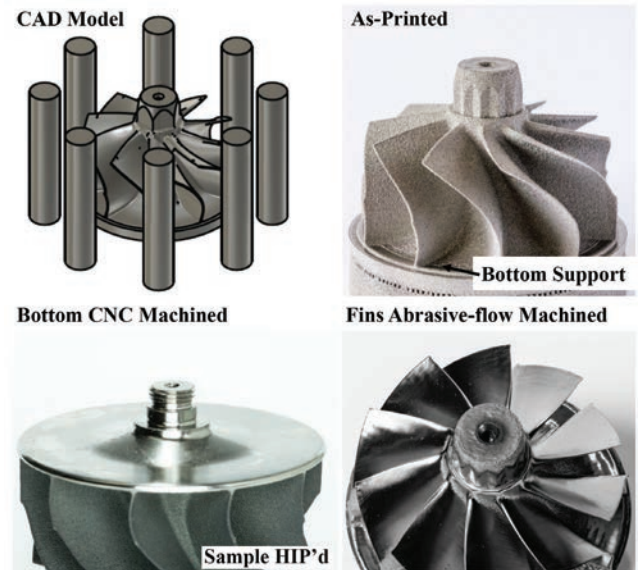

Figure 1. Stages of the turbocharger turbine wheel build process from the CAD model to the finished product. (Credit: C. Jones, ORNL).
Six prototype wheels were built by EBM one at a time at the center of a build plate surrounded by six cylindrical preforms. Figure 1 shows the build schematic. This approach focused the heat on the wheel and prevented cracking during cooldown caused by thermal stress. This approach is not conventional for AM but was necessary in this case because of the brittle nature of this alloy.
Figure 1 shows all the stages of the build process for the turbine wheels: the CAD model stage, the as-printed piece, initial
**XCT Results.** The XCT images are presented in Figure 2. Figure 2a shows a 3D reconstruction of an as-built pillar (modeled using CAD as shown in Figure 1) with pores segmented and highlighted in green. In Figure 2b, a horizontal slice is presented that better shows the pores. AM parts are inherently porous because of gas porosity and lack of fusion. Gas pores are spherical, whereas lack-of-fusion pores are more lamellar.